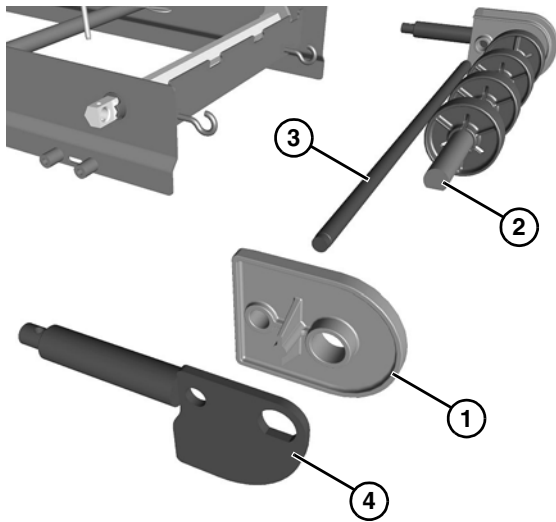

Figure 70
3. Install the tracking plate (Figure 70, item 1) to each side onto idler shaft (Figure 70, item 2) and pinch guard shaft (Figure 70, item 3).
4. Install the shaft assembly (Figure 70, item 4).